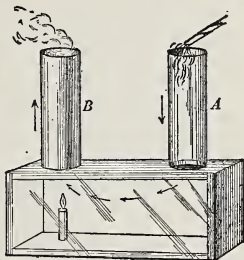

Fig. 36.—Convection Current of Air
**Procedure:** Arrange the apparatus as shown in Fig. 36, but do not light the candle. Hold the smoking torch over each chimney in turn and note that its smoke shows no tendency to be disturbed when so held. Now light the candle and bring the torch over the chimneys once more. Observe that the smoke is strongly drawn down that chimney which is not over the candle; also that the smoke travels across the box toward the candle and passes out by way of the chimney above it.